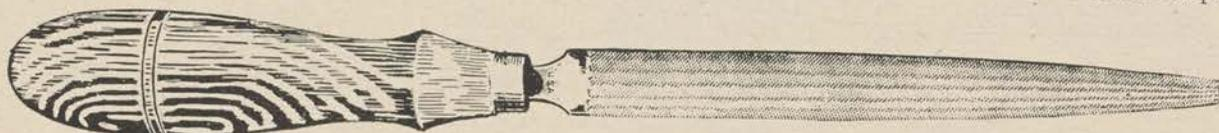

Figure 77.
d. Filing wood gives a rather unpleasant surface and should be done sparingly, but wood files or rasps are occasionally indispensable for enlarging holes or smoothing out roughly chiseled curves. A slightly tapered half-round file of the type illustrated is best (fig. 77).